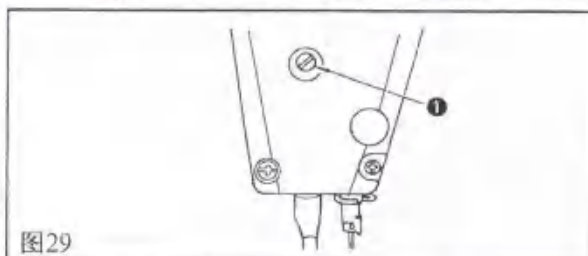

图29
1) Turn the handwheel to bring the needle bar down to the lowest point of its stroke, and loosen setscrew ①.
2) Align marker line A on needle bar ② with the bottom end of needle bar lower bushing ③, then tighten setscrew ①.
3) Loosen the two hook setscrews, turn the handwheel, and align marker line B on ascending needle bar ② with the bottom end of needle bar lower bushing ③.
4) After making the adjustments mentioned in the above steps align hook blade point ⑤ with the center of needle ④. Provide a clearance of 0.04mm to 0.1mm between the needle and the hook, then securely tighten the hook setscrews.
24. 压杆高度的调节 (图29) ADJUSTING THE HEIGHT OF THE PRESSER BAR (FIG.29)